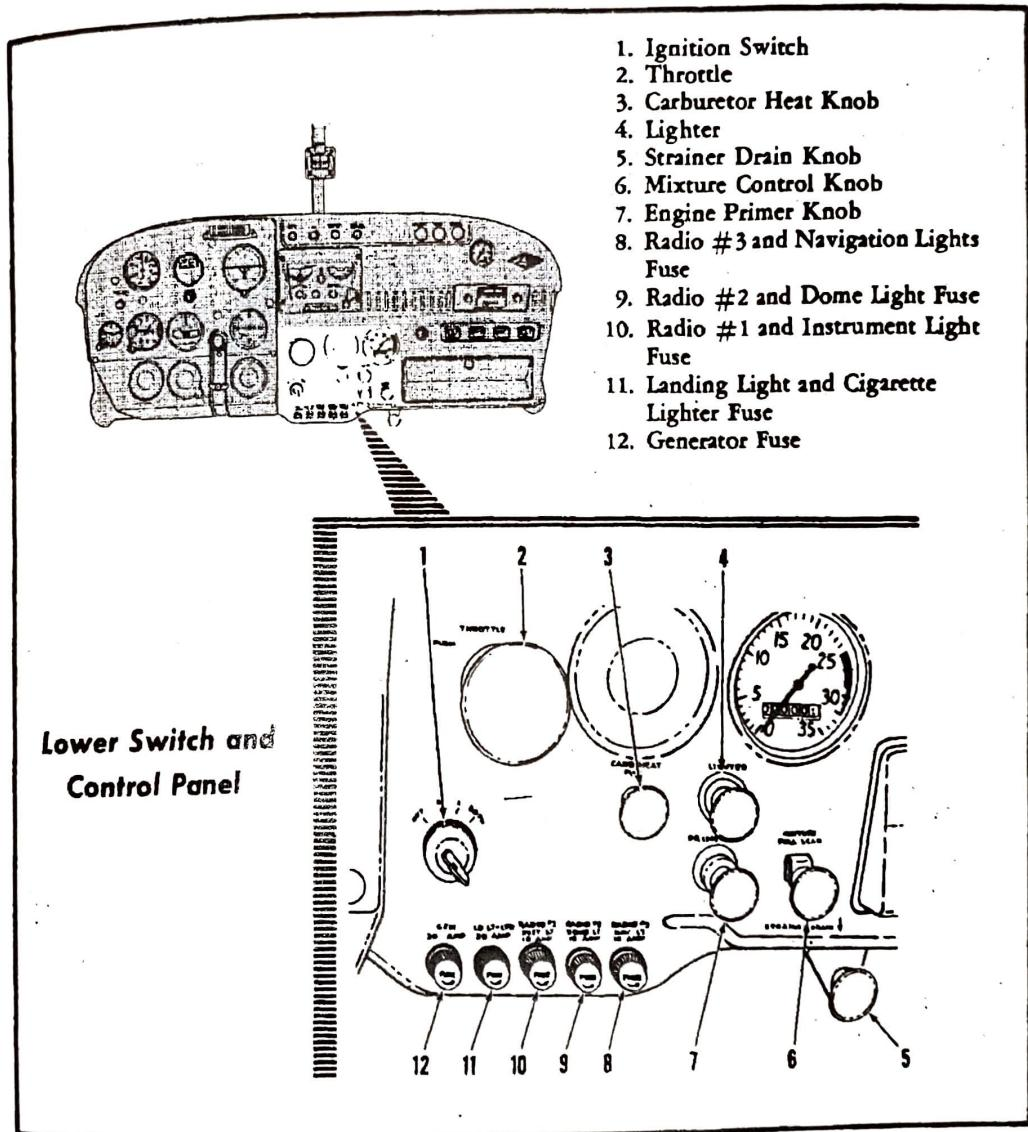

Figure 3.
12. Lower Switch and Control Panel (Figure 3)
The throttle (figure 3) is centrally located on the instrument panel and is easily identified by its large, round knob. Engine rpm can be increased by pushing the throttle in toward the instrument panel or decreased by pulling the throttle out.
The mixture control knob (figure 3) is located just below the tachometer and starter handle. A locking lever is incorporated on the control to prevent unintentional use of the mixture control knob. To *lean the mixture*, it is necessary to depress the locking lever while pulling the mixture control knob out. This operation can be accomplished with one hand by using the thumb to press the locking lever in and the index and middle fingers to pull the mixture control knob out. The locking lever is effective only in the leaning operation. Forward movement of the mixture control knob is not affected by the locking lever.
The carburetor air heat knob (figure 3) is located slightly below and to the right of the throttle. The push-pull knob operates the carburetor air intake butterfly valve, which proportions the hot and cold air entering the carburetor. Pulling the knob out provides heated air for the carburetor while pushing the knob all the way in provides only cold air for the carburetor.
The ignition switch (figure 3) is located just below the throttle. This switch is key operated and controls the dual magneto ignition systems. There are four switch positions designated clockwise as follows: "OFF", "R", "L", and "BOTH". The engine should normally be operated on both magnetos ("BOTH" position). The "R" and "L" positions are for checking purposes only.
The T-shaped starter handle (figure 3) engages the starter drive and closes
The fuel strainer drain knob (figure 3) provides a quick, convenient method of draining water and sediment which may have collected in the fuel strainer.